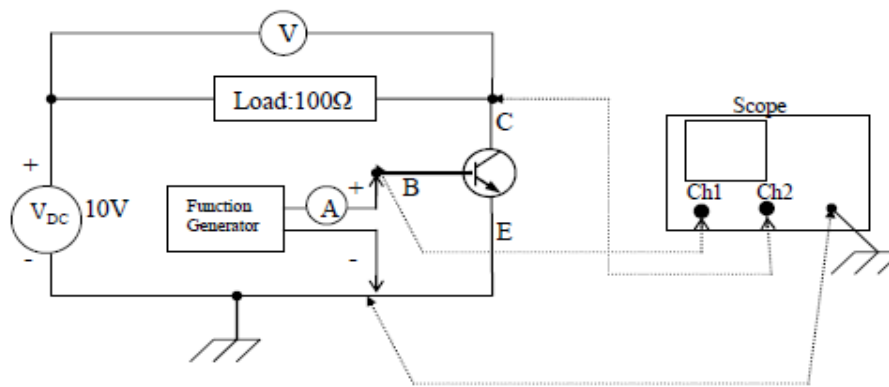

Fig.1: Basic Chopper Circuit
2. Connect the circuit shown in Fig. 1. Connect the +ve terminal of the function generator to the base of the BJT and the -ve to the ground. Connect Ch1 to B, Ch2 to the C and the ground of both channels to E.